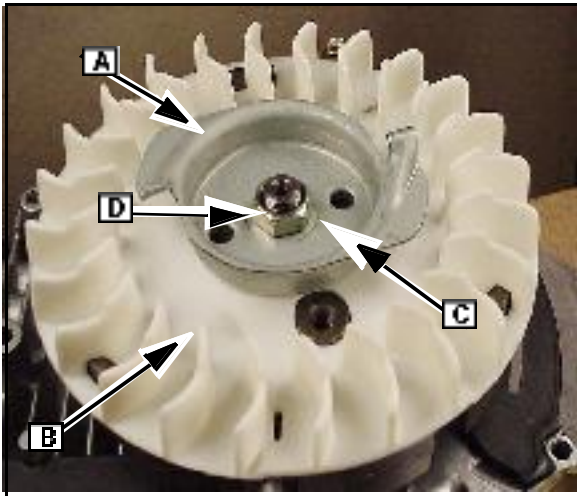

Fig. 5
5. Position the starter cup (A) on top of the blower fan (B) by aligning the two drive flanges with the casting depressions. Install starter hub (if equipped), washer (C) and flywheel nut (D) Fig.5).